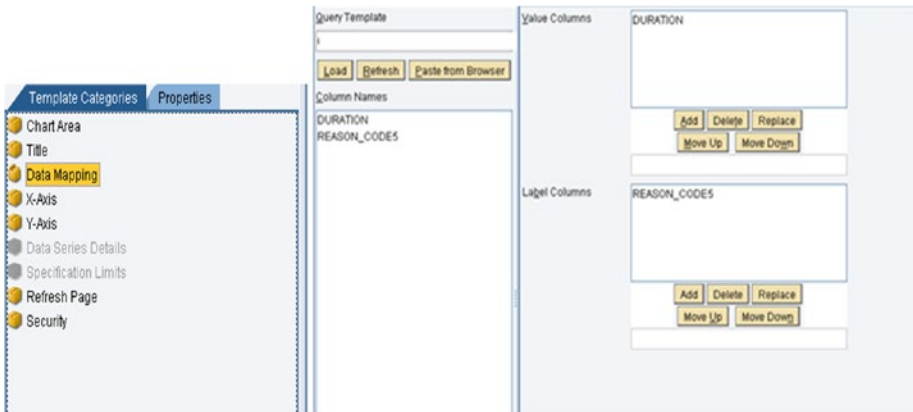

Figure 7-41. *i5Chart data mapping configuration*
- *i5Chart Data Mapping*: Data mapping tab maps columns returned by a query to the various elements of the i5Chart object. See Figure 7-41.